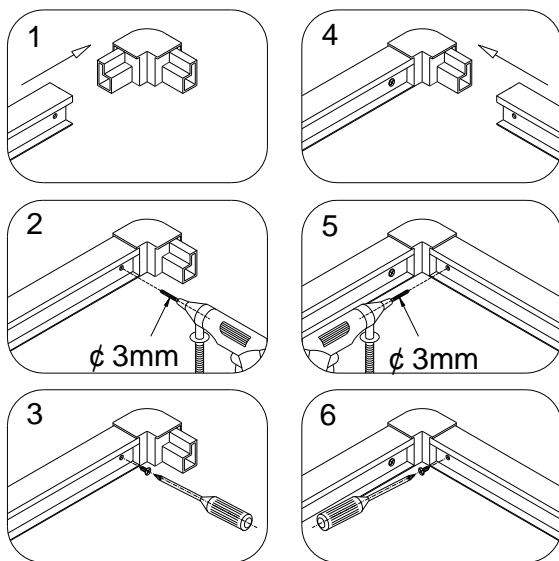

Fig 6
9. Locate the stationary glass panels from the package. Secure the **Connectors (8)** and the guide rail of the **Stationary glasses (6)** with **Round head screws ST4.2x10 (10)**. See Fig 6 for details.